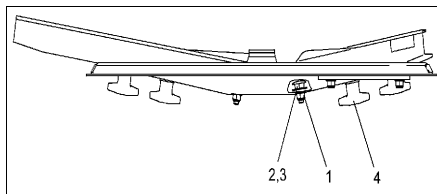

Fig. 62
- Slacken self-locking nut (Fig. 62/1).
- Remove washer and flat mushroom head bolt (Fig. 62/2,3).
- Slacken thumb nut (Fig. 62/4) and exchange spreading vanes.
- Tighten the self locking nut (Fig. 62/1) in such a way, that the spreading vane can be swivelled by hand.